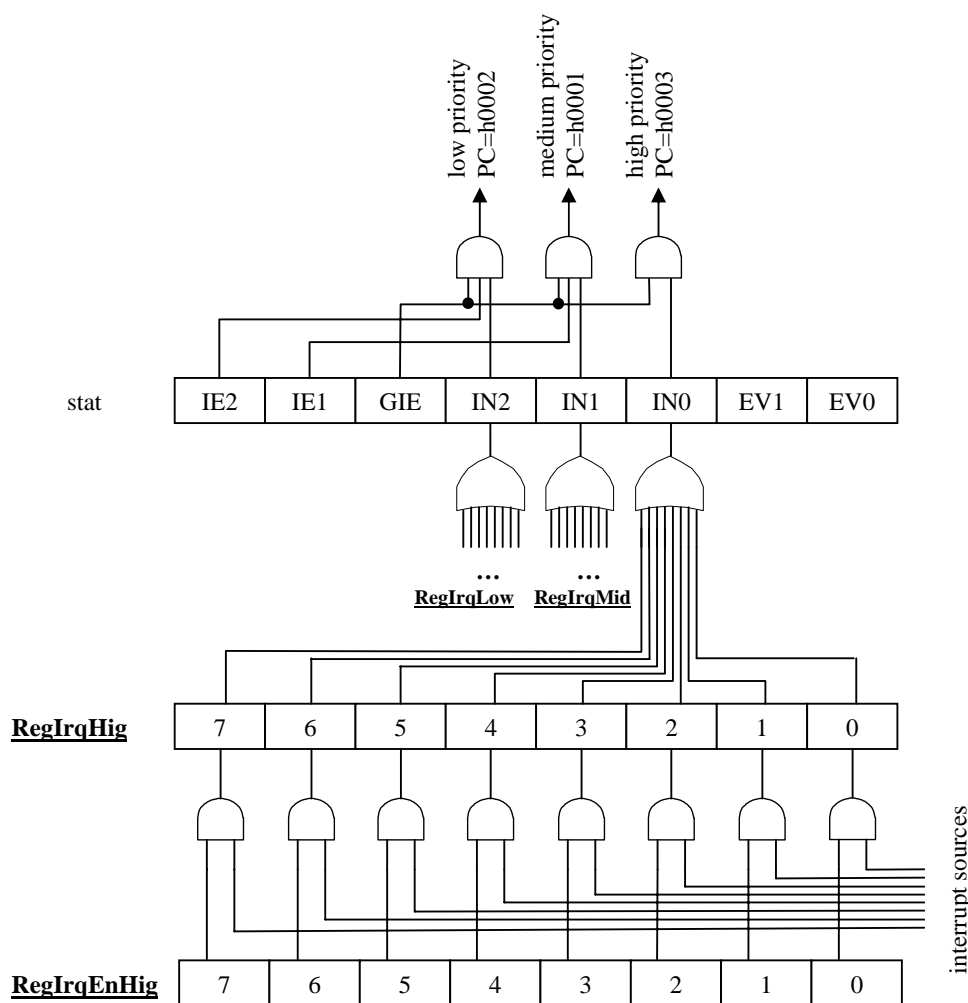

Figure 8-1. Principle of the interrupt handler.
The CoolRISC core has 3 different interrupt levels IN0, IN1 and IN2 (Figure 8-1). When these interrupts are triggered, the program counter (PC) is loaded with a fixed address. In case more than one interrupt occurs simultaneously, the execution order is IN0, IN1, IN2.